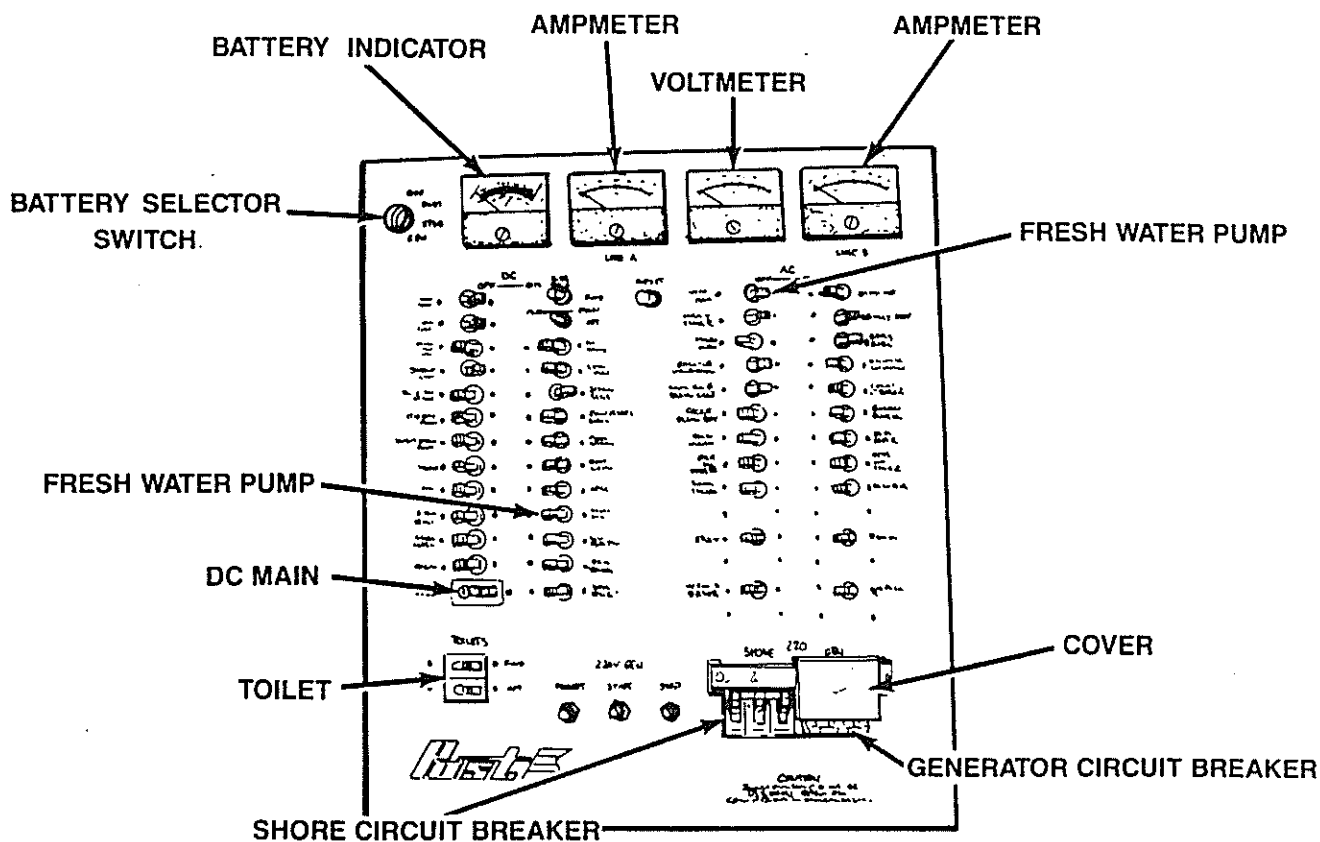

Figure 3-20 Master Control Panel
1. See Figure 3-20. Turn all 120V breaker switches OFF. Set the "GEN" circuit breaker to OFF. Wait 2 minutes and then slide the cover on the selector switch of the "GENERATOR" circuit breakers. Set the breaker switch marked "CABLE MASTER" on the DC Master Control Panel to ON.
See Figure 3-20. Set the "DC MAIN" breaker switch on the Master Control Panel to ON.
1. See Figure 3-20. Set either the AC or DC "WATER PUMP" breaker switch in the Master Control Panel to ON.
See Figure 3-20. To operate, make sure the breaker switch "TOILETS" "FWD" or "AFT" is ON.